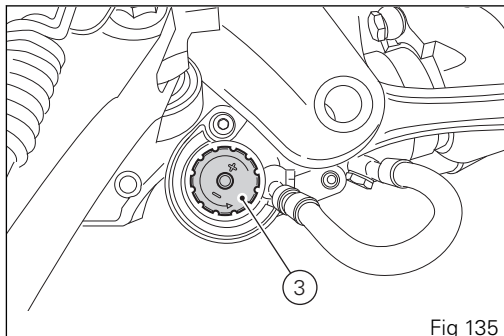

Fig 135
The knob (3, Fig 135), located on the expansion reservoir of the shock absorber, adjusts the damping during the compression phase. Turn the adjusters (1) with a screwdriver or the knobs (2) and (3) clockwise to obtain a harder setting or increase preload. Turn them counter-clockwise to obtain the opposite setting.